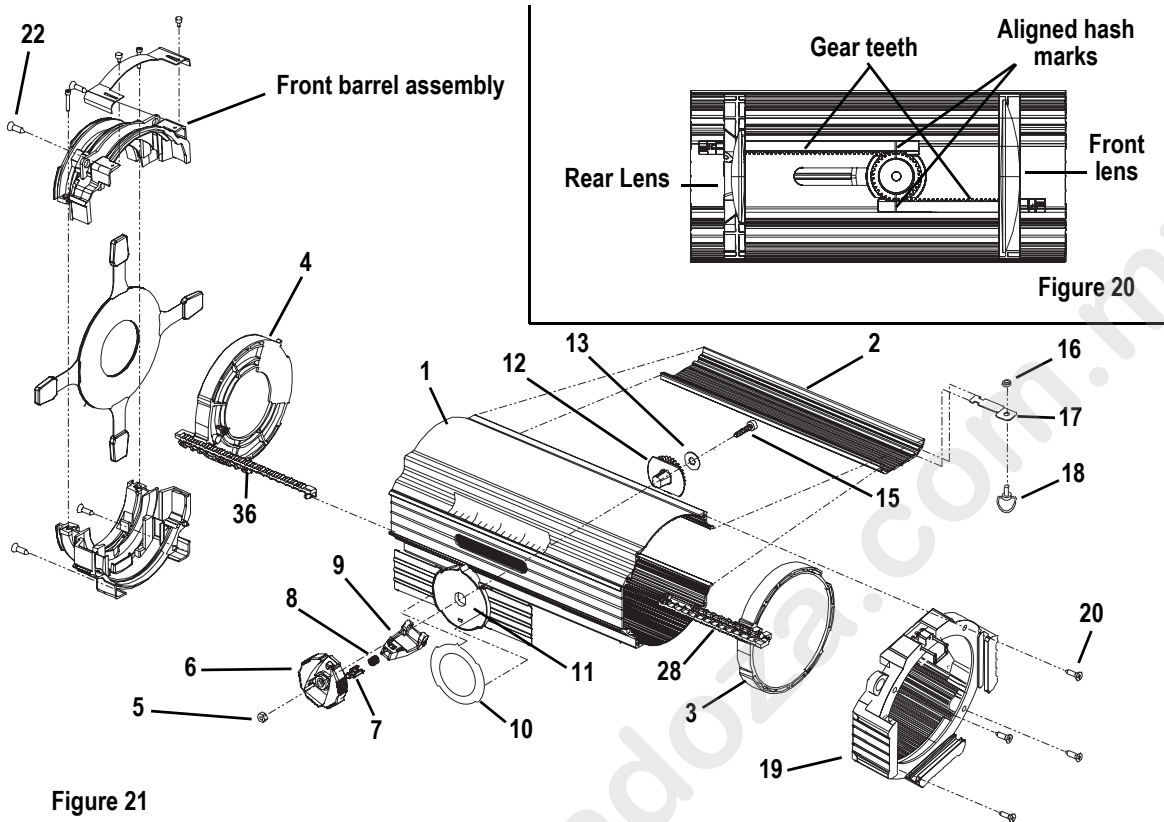

Figure 21
- Step 4: Slide the light baffle (11) into the opening of the lens tube. See Figure 21.
- Step 5: From inside the unit, pass the screw (15) through the washer (13), the hole on the gear spur (12) and the light baffle (11).
- Step 6: On the outside of the unit, place the adjustment dial (6) over the screw end (15) and secure with the metal nut (5).
- Step 7: Place the front barrel assembly onto the rear of the lens tube and secure with four screws (22).
- Step 8: With the extrusion door open, place the gel cap (19) on the front of the unit and secure with four screws (20).
- Step 9: Once the gel cap is in place, close the extrusion door and turn the fastener (18) one-quarter turn clockwise to secure the baffle in place.